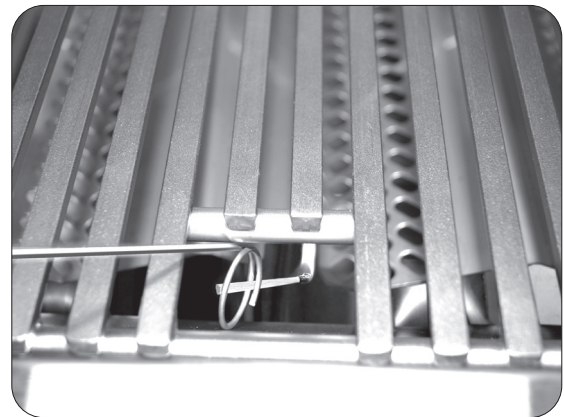

Fig. 31-2 - Manual lighting
2. Insert either a burning long-barrel butane lighter, a burning long-stem match, or a burning match held by a wire extension holder through the cooking grid opening to the top of the burner (Fig. 31-2).
4. If the burner does not light within five (5) seconds of turning the control knob, **immediately depress the knob and turn the valve to OFF**. **WAIT FIVE (5) MINUTES** before repeating steps 2 through 4 of the **MANUAL LIGHTING** instructions.